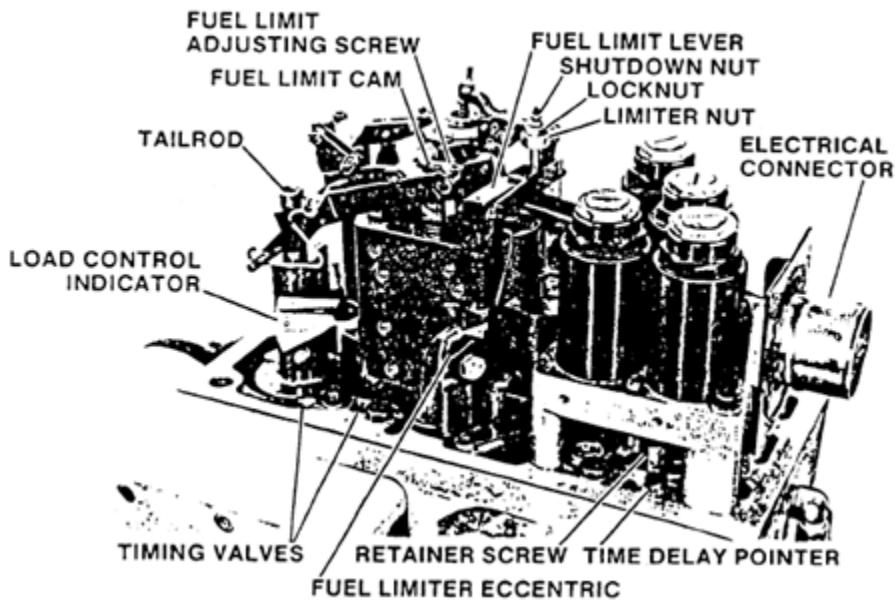

Figure 6-6. PGEV
- 6. Turn both timing valves in until valve gently bottoms. See Figure 6-6.
- i. Install load control indicator so pointer aligns with zero on scale. Lock in place with clamp screw (Figure 6-6).
- (1) Set a dial indicator on tailrod and adjust so "gap" readings can be determined with dial indicator. Correlate dial indicator readings to gap by using a 1 inch (25.4 mm) gap block between servo housing and top of rod end.
- (2) Determine "gap" to balance vane servo indicator. It should be 0.365 to 0.395 inch gap (9.27 to 10.03 mm). If in tolerance, altimeter calibration is complete.
- (3) If the balanced gap is not in tolerance, loosen the crank arm clamp screw and adjust the cam follower roller to balance the vane servo at a gap which is just in tolerance. That is: If the original balanced gap was larger than 0.395 inch (10.03 mm) adjust cam roller to balance at about 0.390 inch (9.91 mm) gap.